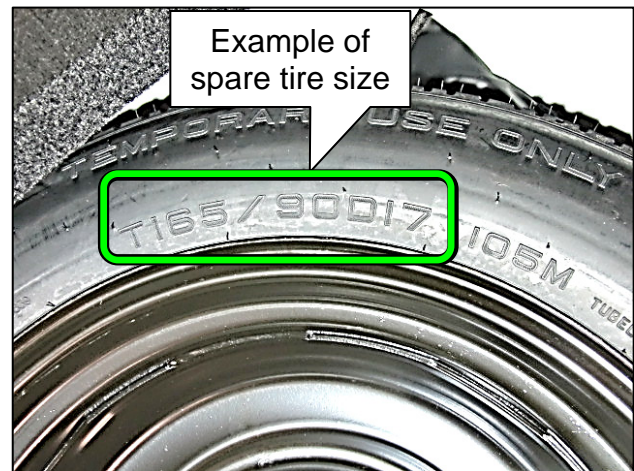

Figure 6
8. Locate the size on the spare tire and write it on the repair order (Figure 6).
- The example in Figure 6 is "T165/90D17".